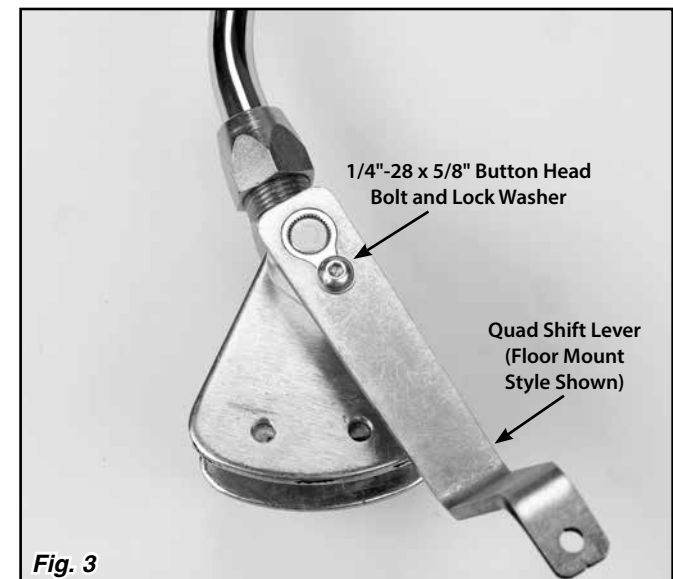

Fig. 3
Step 2: Place the quad shift lever onto the bushing as shown in **Fig. 3**. Install the 1/4"-28 x 5/8" button head bolt and lock washer into the quad lever bushing, and tighten with a 5/32" Allen wrench.